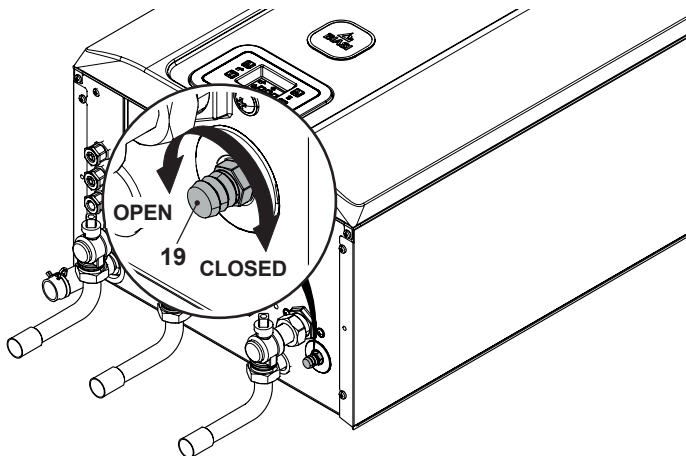

Figure 2.11
- 3 Loosen the central heating drain cock "19" (Figure 2.11) until the boiler is completely emptied.